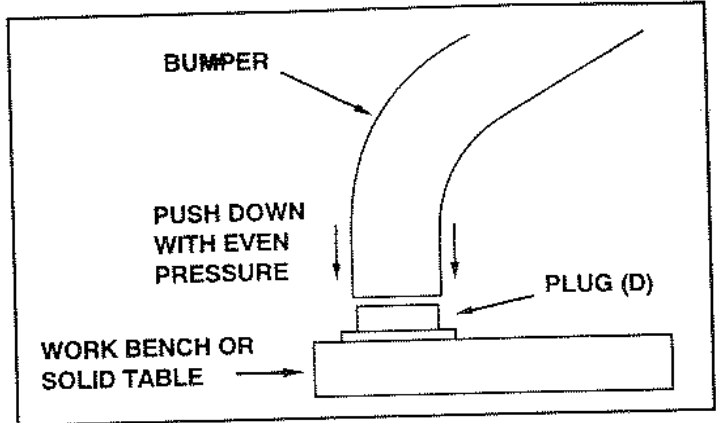

FIGURE 1
- Place the plug on a work bench or a solid table. Set the end of the bumper onto the plug so that it rests on the short step of the plug. Using even pressure, push down on the bumper tube until the end of the bumper slips over the plug. See figure 1. Repeat for the other end of the bumper.